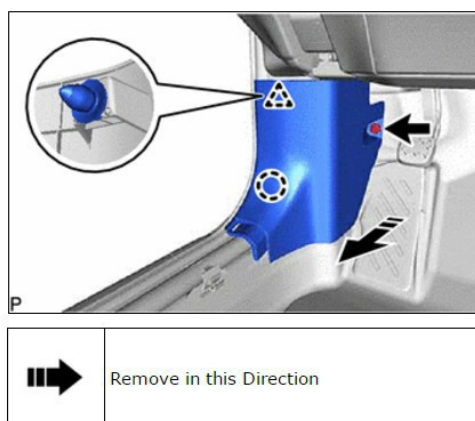

Figure 4
- (b) Disengage the claw and clip to remove the cowl side trim sub-assembly LH as shown in Figure 4.